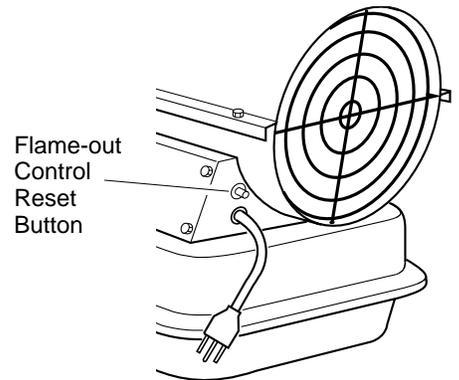

Figure 4 - Flame-out Control Reset Button
5. Plug extension cord into standard 120 volt/60 hertz, three-hole, grounded outlet. Adjust thermostat to desired setting. If heater does not start, thermostat setting may be too low. Turn thermostat knob to higher position to start heater. If thermostat is in HIGH position and heater still will not start, push in flame-out control reset button (see Figure 4).